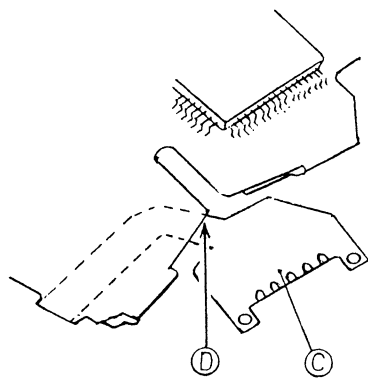

Fig.92
At this time, pass the part ③ of the FPC through the hole ④. (See Fig.92)